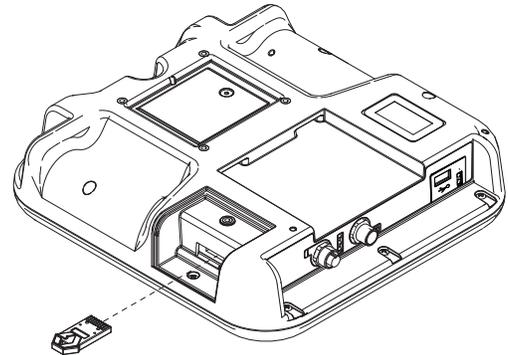

FIG. 8: Insert Token
2. Insert a black update token into the slot where the cover (L) was removed as shown in **Figure 8**.